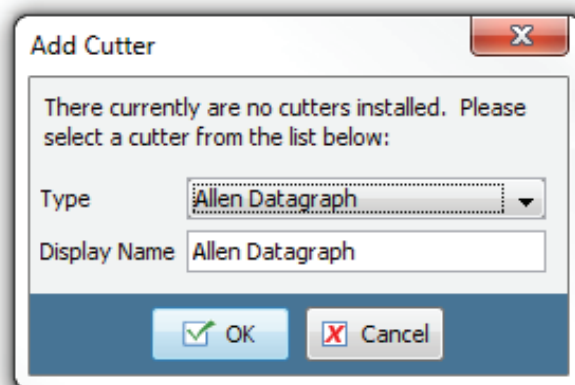

Figure 7
1. Open CUT-Server and you will be prompted to select your cutting device from a drop-down menu (Figure 7).